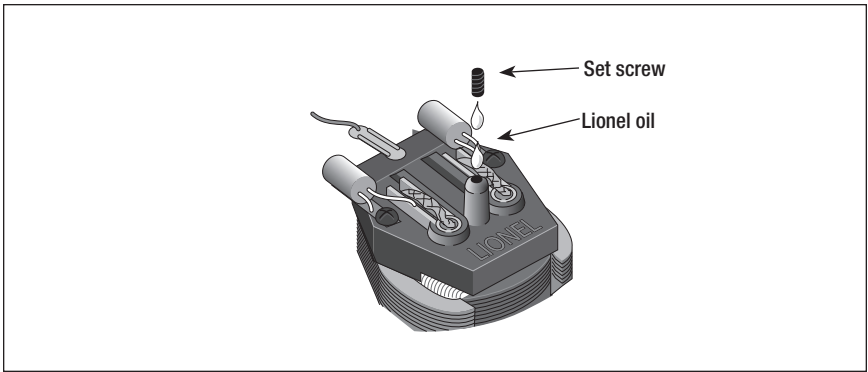

Figure 5. Oiling the Pullmor motor
3. Remove the set screw from the top of the motor using a $3/64$ ' Allen wrench. This screw is illustrated in Figure 5.